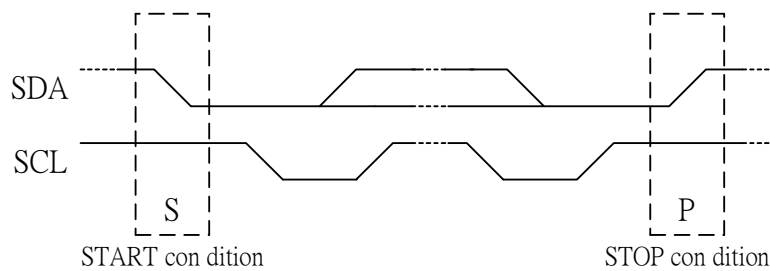

Figure 5 Definition of START and STOP conditions
A LOW-to-HIGH transition of the data line while the clock is HIGH is defined as the STOP condition (P). The START and STOP conditions are illustrated in Figure 5.